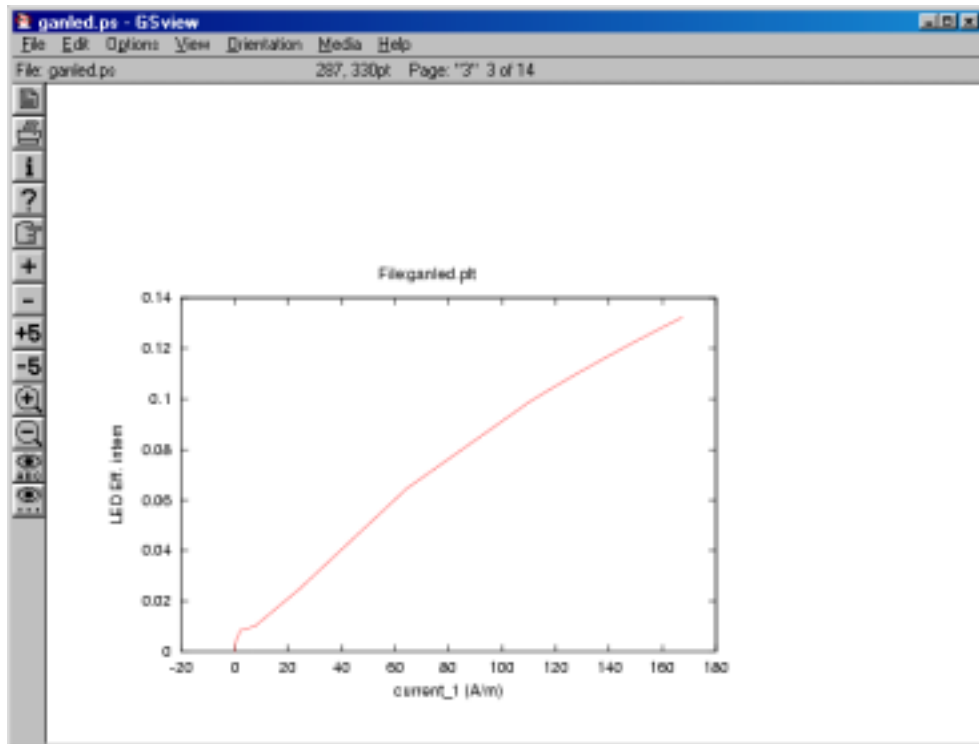

Fig. 16c: Internal LED efficiency vs. current
- internal efficiency vs. current (Fig. 16c)